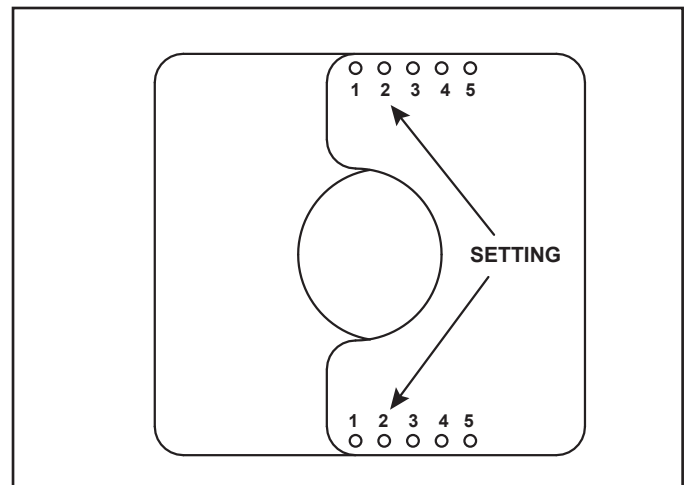

Figure 4.7 Setting the Exhaust Restrictor for MEZZO1000-AUB
3. The setting for MEZZO1000-AUB is 2-2. Align the holes marked "2" on the numbered exhaust restrictor piece with the holes on the other exhaust restrictor piece. See Figure 4.7. Align the exhaust restrictor pieces with the pilot holes in the inner firebox chamber. Use two 1/2 in. (13 mm) self-piercing screws to secure vent restrictor to firebox heat shield.